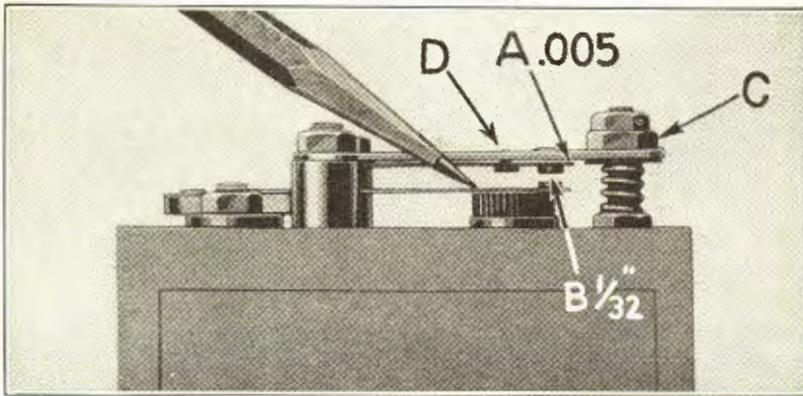

Fig. 504
- 1006** When installing a new vibrator and bridge, it is very important that a uniform clearance of approximately $.005''$ be maintained between cushion spring and vibrator bridge (See A Fig. 504). This clearance should extend the full length of the cushion spring.
- 1009** When a coil unit is correctly adjusted it will show one good spark at each of the 16 points around the ring with the ammeter on the stand registering 1.3 amperes and the volt meter registering six volts. If more than one spark occurs at any of the sixteen points, it indicates that the cushion spring is not working freely. This can be corrected by lightly tapping the vibrator on the cushion spring rivet (See "D" Fig. 504).